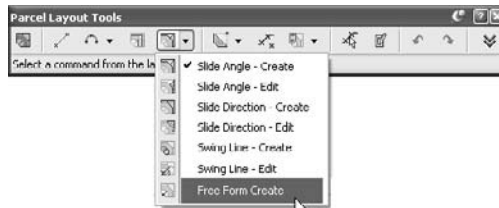

Figure 6.6
3. Use the Parcel Sizing tools pull-down list to choose the Free Form Create tool, as shown in Figure 6.6. The Create Parcels - Layout dialog will appear.